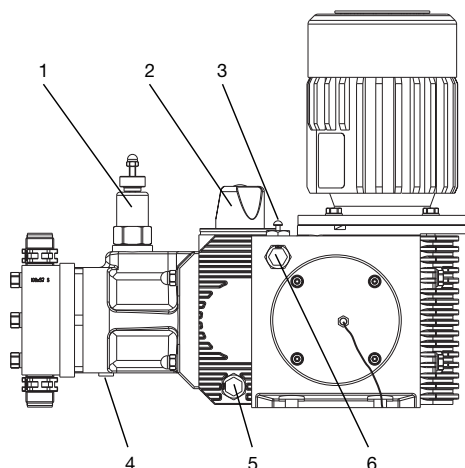

Fig. 14
**Drain hydraulic oil (see fig. 14/15):**
### Refilling hydraulic oil (see fig. 14/15):
**Draining hydraulic oil out of hydraulic unit (see fig. 14/15):**
- ▶ Turn stroke position knob (2) beyond “100 %” to the stop
- ▶ Unscrew the gearbox vent stopper (3)
- ▶ Unscrew the oil drainage stopper (4) from the hydraulic end
- ▶ Screw in the oil drainage stopper (4) with a new seal.
### Filling hydraulic end with hydraulic oil (see fig. 14/15):